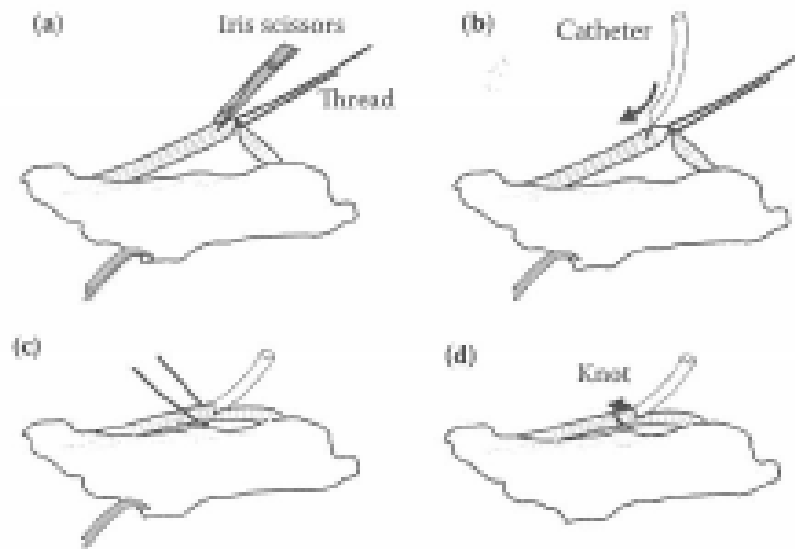

Figure 62. Tracheal tube insertion
6. Place a length of silk suture underneath the trachea and gently pull the ends of the suture cranially to elevate the trachea (Figure 62). It may be advantageous to place a second suture caudally and put tension on this suture to elevate the trachea further (not shown).